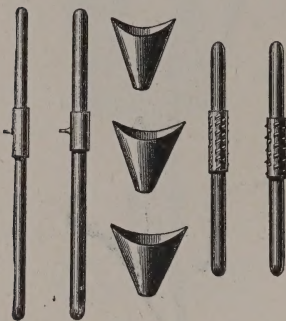

Fig. 1. Fig. 2. Fig. 3.
- Fig. 1. Measuring Posts with slides, one tube-pin size (Ash's No. 3), and one Ash's No. 5 size.